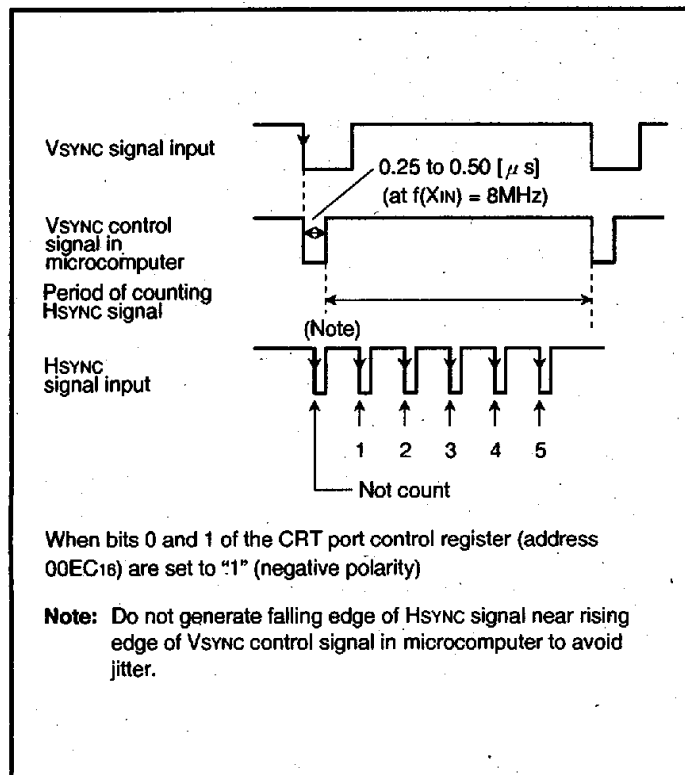

Fig. 32. Supplement explanation for display position
**Note:** When bits 0 and 1 of the CRT port control register (address 00EC16) are set to "1" (negative polarity), the vertical position is determined by counting falling edge of HSYNC signal after rising edge of VSYNC control signal in the microcomputer (refer to Figure 32).